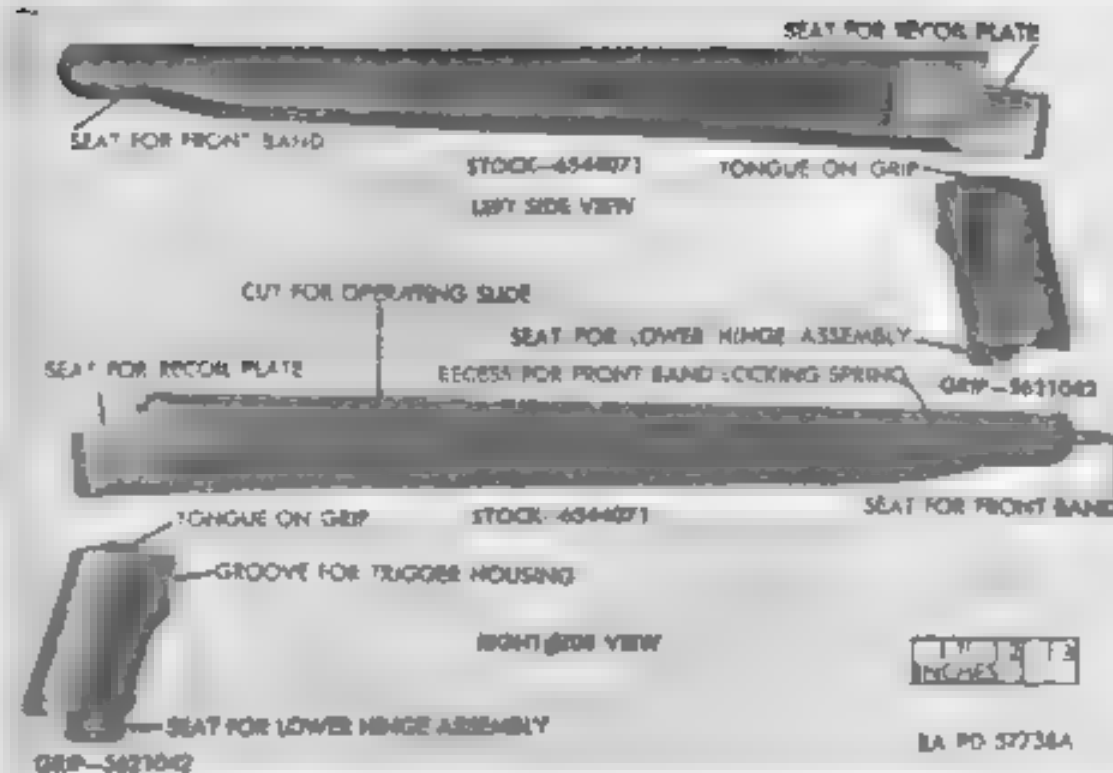

Figure 107. Stock and grip for carbine M1A1
- (2) With stock extension in extended position, unscrew the hinge screw projecting from the upper face of the recoil plate cap by turning counterclockwise. When screw is disengaged from the lower hinge nut, pull screw up and out of grip and then lift off recoil plate cap and lower hinge.
- (3) With flat-ended punch, push hinge screw spacer out of hole in the lock on end of lower bar up into coil spring. Then pull stock extension to rear from stock and remove grip spring, hinge screw spacer and grip spring washer from countersunk hole in lower end of grip. Take care that spring does not fly out or washer does not become lost.
- (4) Remove grip and recoil plate by unscrewing the grip screw counterclockwise from top of recoil plate.
a. Inspect corresponding parts of stock as for carbines M1, M2, and M3 (figs. 107 and 108). Refer to paragraph 61.